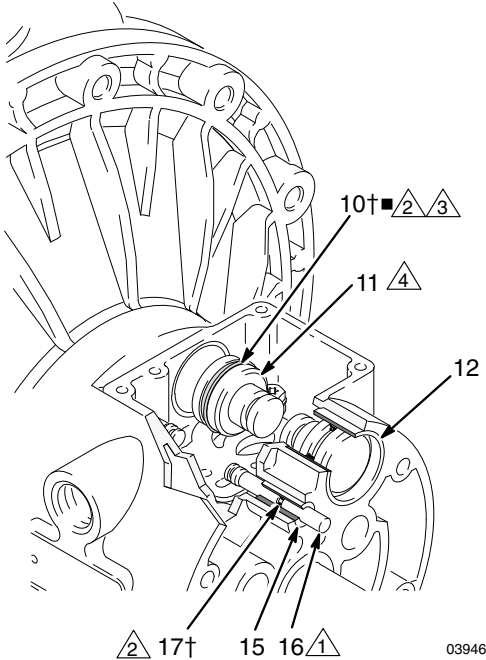

FIG. 8
4. Pull the two actuator pistons (11) out of the bearings (12). Remove the u-cup packings (10) from the pistons. Pull the pilot pins (16) out of the bearings (15). Remove the o-rings (17) from the pilot pins. See Fig. 8.
6. Inspect the bearings (12, 15) in place. See Fig. 8. The bearings are tapered and, if damaged, must be removed from the outside. This requires disassembly of the fluid section. See page 22.
4. Install an o-ring (17†) on each pilot pin (16). Grease the pins and o-rings. Insert the pins into the bearings (15), **narrow** end first. See FIG. 8.
5. Install a u-cup packing (10†) on each actuator piston (11), so the lips of the packings face the **narrow** end of the pistons. See FIG. 8.
6. Lubricate the u-cup packings (10†) and actuator pistons (11). Insert the actuator pistons in the bearings (12), **wide** end first. Leave the narrow end of the pistons exposed. See FIG. 8.